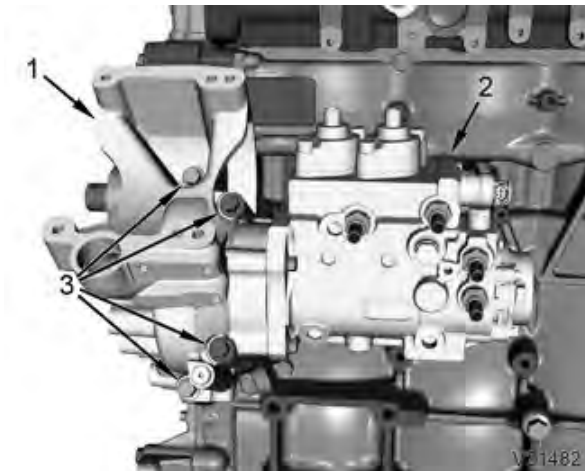
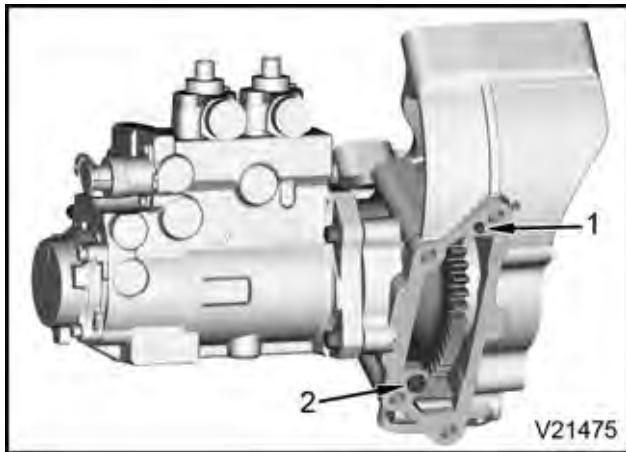

Figure 12. HP Fuel Pump and Drive Housing
Figure 13. Dowel Pin and Sleeve
26. Remove four mounting bolts and remove HP fuel pump and drive housing assembly from crankcase (Figure 12 and Figure 13).